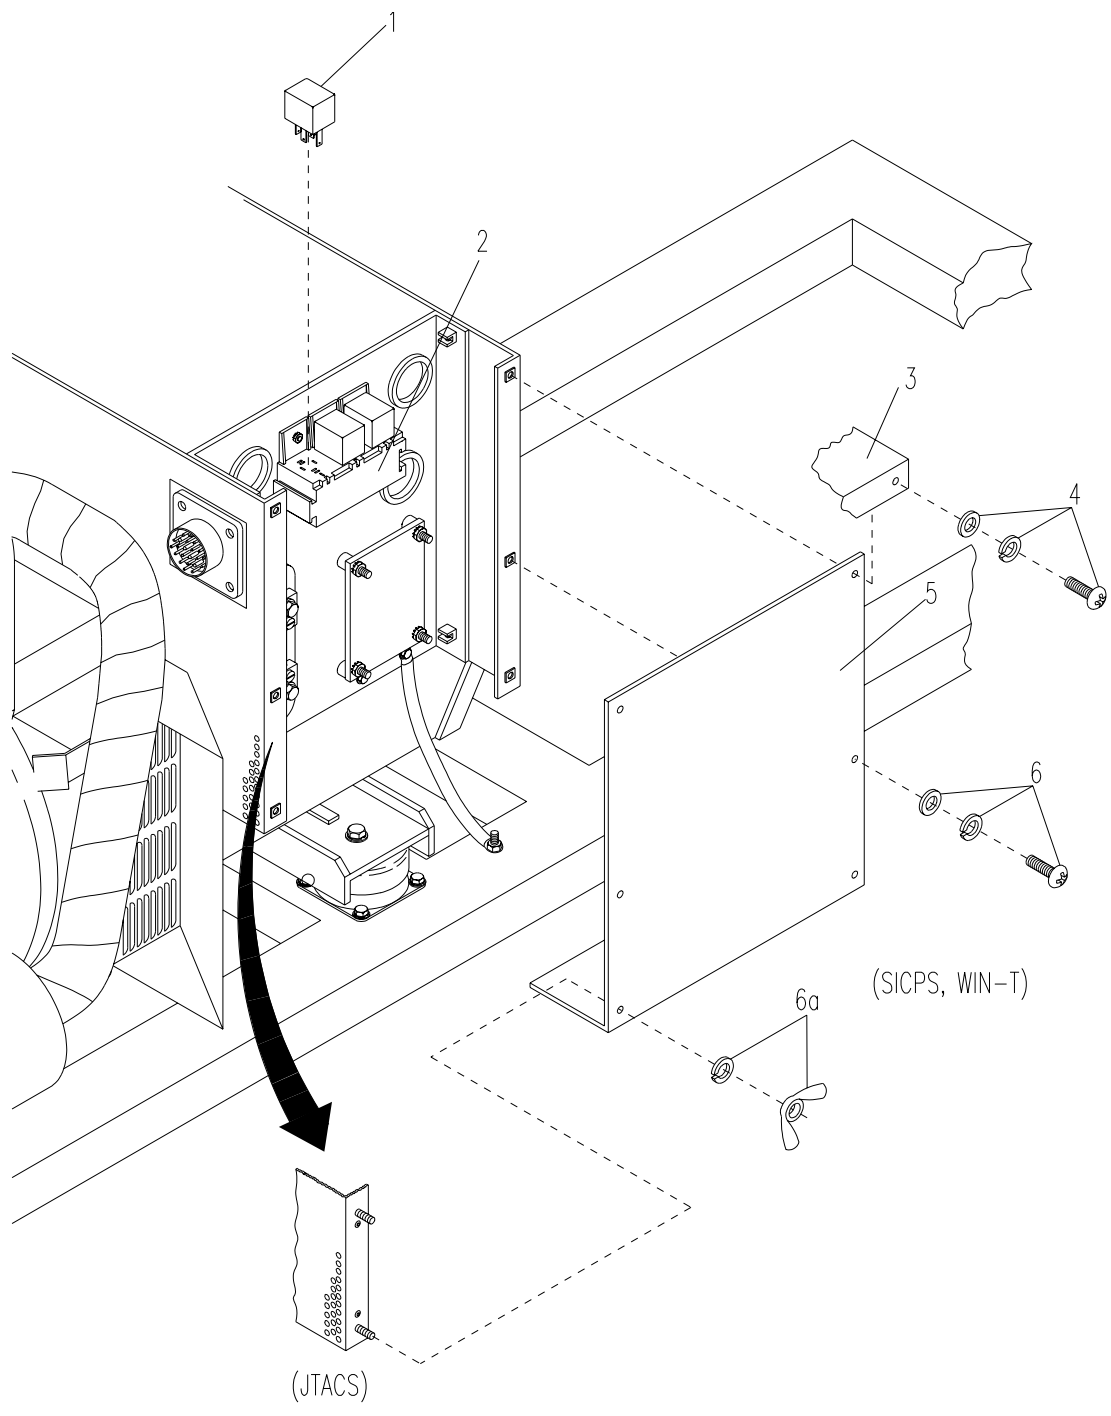

Figure 5-14. Electromagnetic Safety Relays
- a. Remove four screws (JTACS), or slotted hex-head bolts (SICPS and WIN-T), flat and lock washers (4, Figure 5-14), and generator housing top cover (3).
- b. Remove two screws, wing nuts and lock washers (6a) (JTACS), or four slotted hex-head bolts (SICPS and WIN-T), flat and lock washers (6), and generator housing side cover (5) (muffler side).
- c. Remove electromagnetic safety relay (1) from relay socket (2).
- d. Install electromagnetic safety relay (1) into relay socket (2).
- e. Install generator housing side cover (5) and secure with two screws, wing nuts and lock washers (6a) (JTACS), or four slotted hex-head bolts (SICPS and WIN-T), flat and lock washers (6).
- f. Install generator housing top cover (3) and secure with four screws (JTACS), or slotted hex-head bolts (SICPS and WIN-T), flat and lock washers (4).